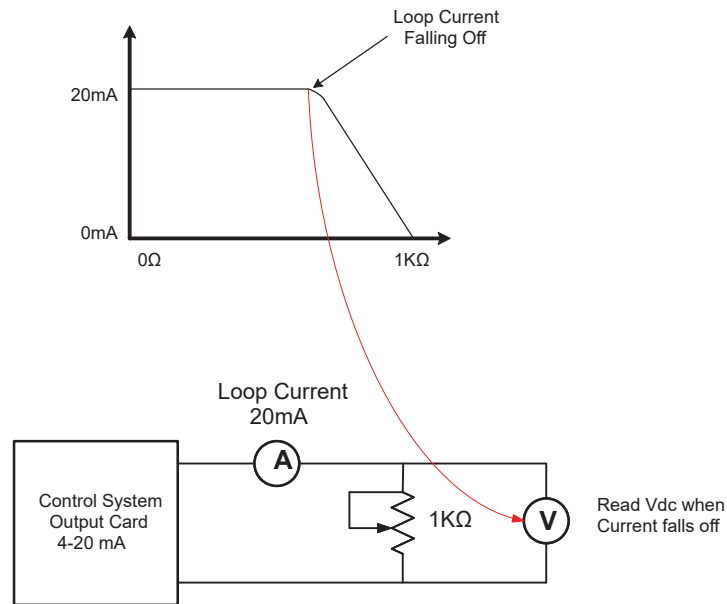

Figure 37 - Compliance Voltage Test Setup
1. Configure a test setup as in Figure 37.